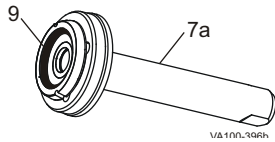

Figure 24 - Remove Counter bore O-ring
7. Replace the O-ring (Figure 24, item 9) in the counter bore of the lower stem as needed.